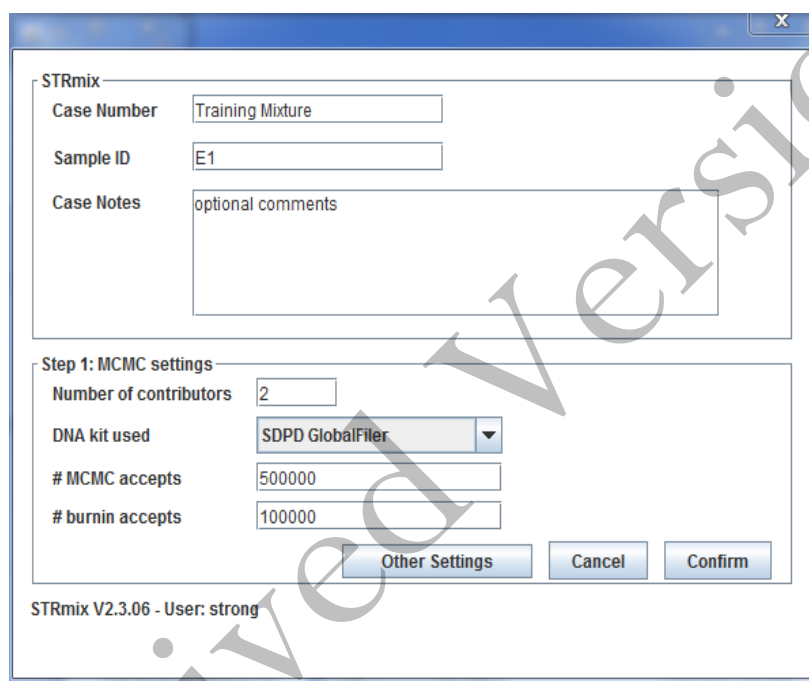
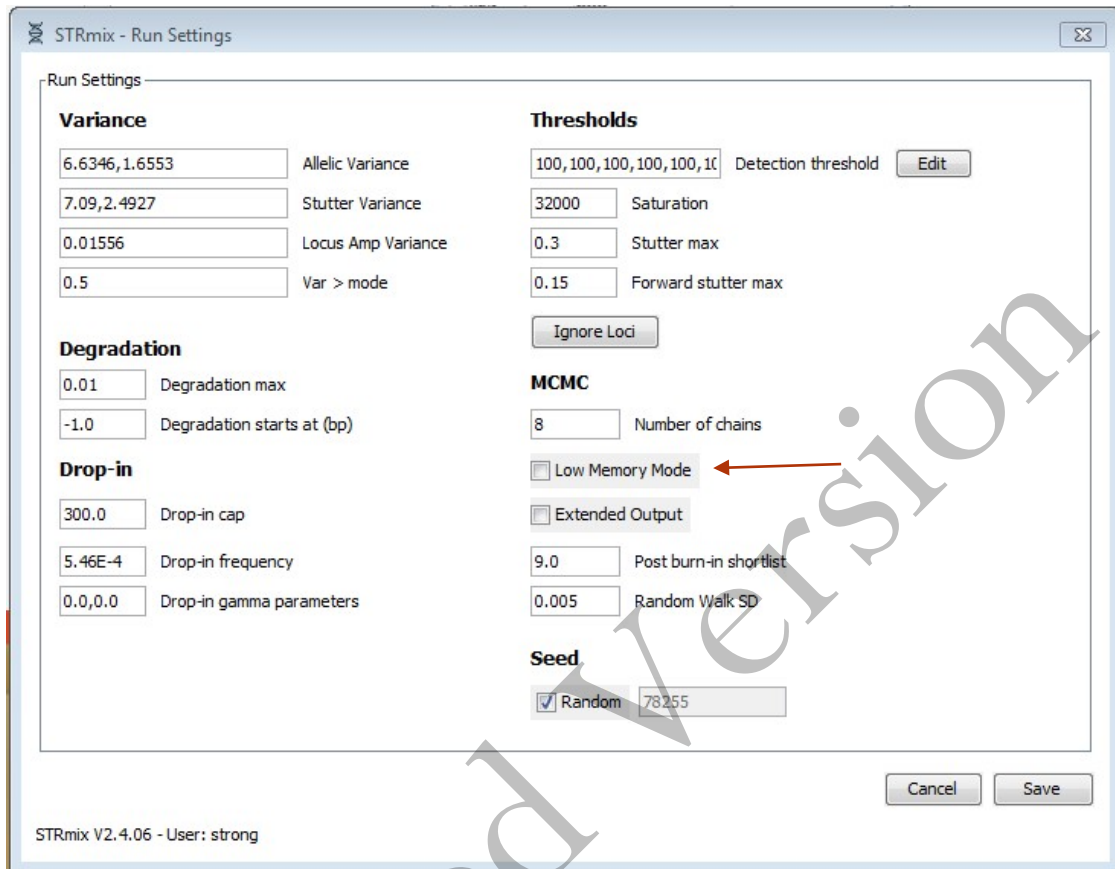

FIGURE 2
FIGURE 3
1. Select Start Mixture Analysis to open the Sample Summary window (see Figure 2). This initiates a three-step process for the interpretation of single source and mixed DNA profiles.
Fill in the Case Number, Sample ID, any case notes (optional), the number of contributors for the analysis. Select the appropriate DNA kit (SDPD GlobalFiler, SDPD GlobalFiler 24sec, or SDPD MiniFiler) for the analysis. The number of MCMC accepts and burn-in accepts should only be changed if longer analyses are required to better resolve complex mixtures. All five person mixtures must be run in low memory mode (Figure 3). Low memory mode can be selected by clicking the “Other Settings” button in the Sample Summary Window (Figure 2).
3. The window in Figure 2 will open, but analysis settings will be unavailable for change. Fill in the Case Number, Sample ID, and any case notes (optional). The sample ID box should be altered to contain the initials for the reference sample to be compared (e.g., XXXXXXXX LR Ref XX). Any loci to be ignored can be set in Others Settings. Select confirm.